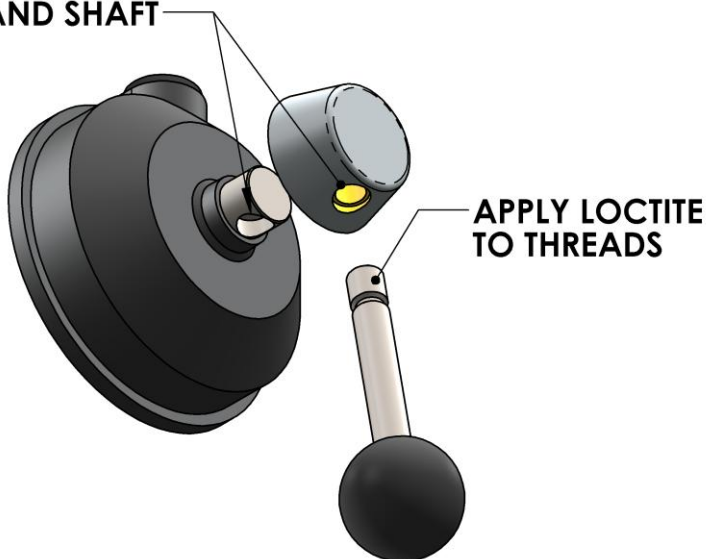

Figure 27: Re-installing handle hub and handle
17. Apply a Loctite 243 to the threads of the handle shaft as shown in Figure 27.
18. Place the handle hub over the end of the cam shaft ensuring the hole on the on hub lines up with the hole on the cam shaft as shown in Figure 27.